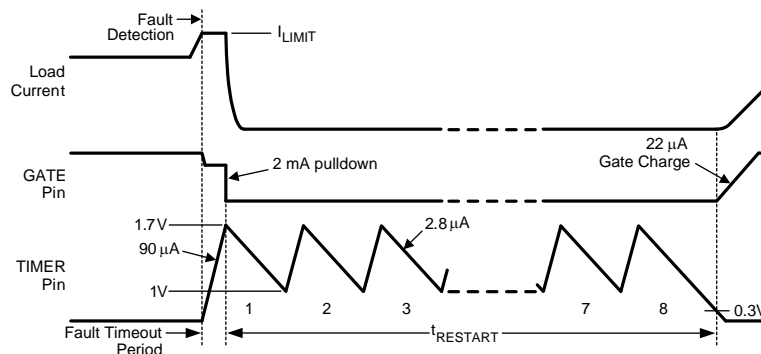

Figure 34. Restart Sequence
The LM25066I/A provides an automatic restart sequence which consists of the TIMER pin cycling between 1.7V and 1V seven times after the Fault Timeout Period, as shown in Figure 34. The period of each cycle is determined by the 90 μA charging current, and the 2.8 μA discharge current, and the value of the capacitor C_T . When the TIMER pin reaches 0.3V during the eighth high-to-low ramp, the 22 μA current source at the GATE pin turns on Q_1 . If the fault condition is still present, the Fault Timeout Period and the restart sequence repeat. The $\overline{\text{RETRY}}$ pin allows selecting no retries or infinite retries. Finer control of the retry behavior can be achieved through the DEVICE_SETUP (D9h) register. Retry counts of 0, 1, 2, 4, 8, 16 or infinite may be selected by setting the appropriate bits in the DEVICE_SETUP (D9h) register.
C) Restart Timing - For the LM25066I/A, after the Fault Timeout Period described above, C_T is discharged by the 2.8 μA current sink to 1V. The TIMER pin then cycles through seven additional charge/discharge cycles between 1V and 1.7V as shown in Figure 34. The restart time ends when the TIMER pin voltage reaches 0.3V during the final high-to-low ramp. The restart time, after the Fault Timeout Period, is equal to: